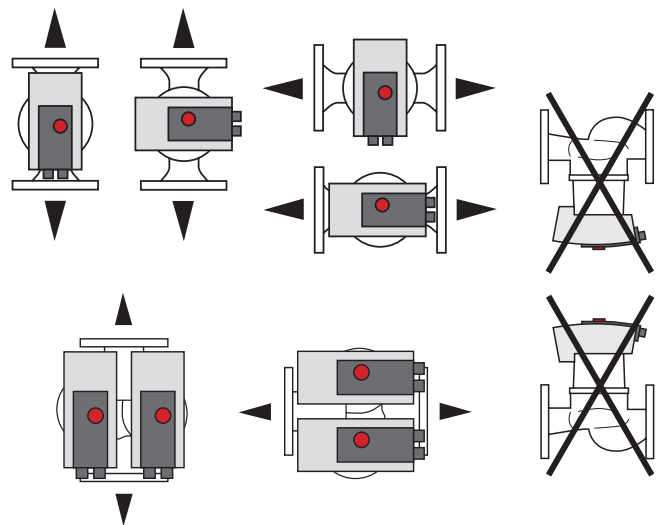

Fig. 4: Permissible installation
1. Check permissible installation positions → Fig. 4.